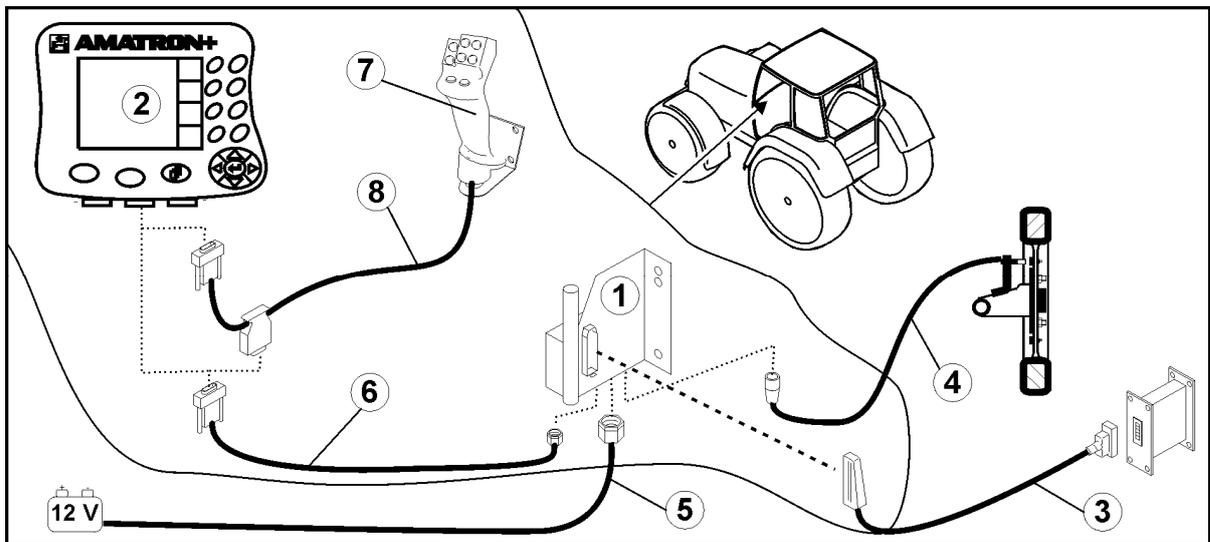
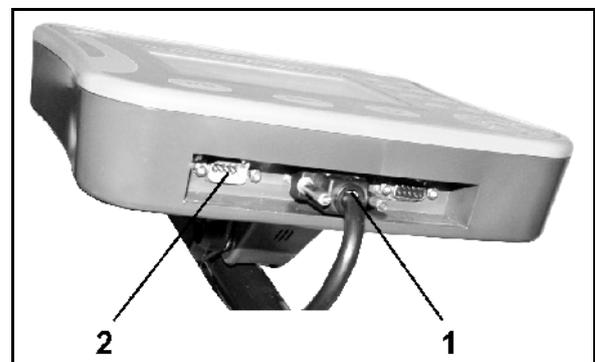

Fig. 1
Fig. 2
- The tractor's basic equipment (Fig. 1/1 console with distributor) must be installed to the right of the driver in the cab, within visual range and easy reach, so that it is vibration-free and electrically conductive.
- The battery cable (Fig. 1/5).
- Signal cable from the tractor signal socket or distance sensor (Fig. 1/4).
- Connecting cable to **AMATRON+** (Fig. 1/6).
- Plug the **AMATRON+** (Fig. 1/2) into the tractor's basic equipment.
- Insert the connector of the connecting cable (Fig. 1/6) into the middle 9-pin Sub-D bushing (Fig. 2/1).
- Connect the machine via the connector (Fig. 1/3) to the **AMATRON+**.
The multifunction stick (Fig. 1/7) is connected using a Y-cable (Fig. 1/8).
- The serial interface (Fig. 2/2) allows a PDA to be connected.